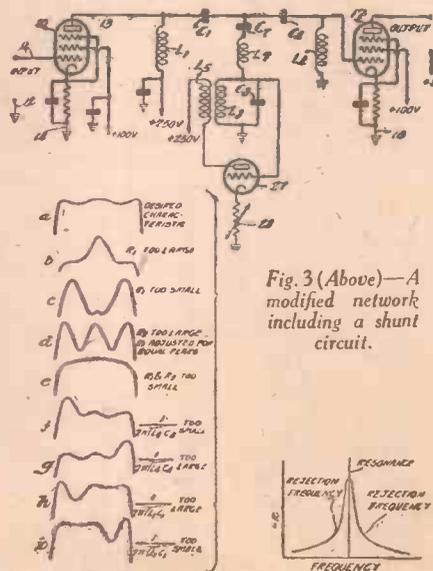
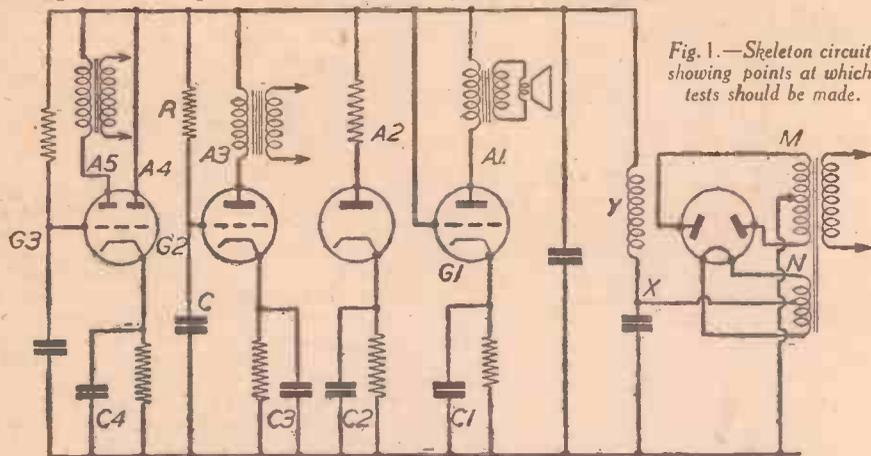

Fig. 5.—A series of curves representing the shapes of band-pass characteristics.
Fig. 1.—Skeleton circuit showing points at which tests should be made.
Broadly considered, the networks of Figs. 1 and 3 include two acceptor circuits,  $C_1L_1$  and  $C_4L_4$ , tuned to the centre of the desired frequency band, and two rejector circuits,  $C_2L_2$  and  $C_3L_3$  (Fig. 1), tuned respectively on the opposite sides of the pass band. As indicated by the curve of Fig. 2, this well-known circuit gives a flat top or three slight peaks with steep sides in the pass band part of the frequency-amplitude characteristic. With high-loss reactors or with a narrow pass band, the shoulders of this characteristic tend to droop. Regeneration of the rejector circuits  $C_2L_2$  and  $C_3L_3$  functions to maintain the desired flat pass band characteristic irrespective of the reactor losses and the pass band width.
The network of Fig. 1 includes an electron discharge amplifier 10 which is provided with input terminals 11-12 and with output terminals 13-14 coupled through reactor-capacitor units  $C_1L_1$  and  $C_4L_4$  to the input terminals 15-16 of an amplifier 17. A resistor  $R_1$  of the order of 100,000 ohms may be connected in shunt to the reactor  $L_1$  for reducing the centre peak of the curve of Fig. 2 to about the same height as the other two peaks, and a resistor  $R_2$ , which may be smaller than the resistor  $R_1$ , may be connected in shunt to the reactor  $L_4$ .
The modified network of Fig. 3 differs from that of Fig. 1 in that the two shunt rejector circuits  $C_2L_2$  and  $C_3L_3$  are replaced by a shunt circuit which includes a capacitor  $C_7$  and a reactor  $L_7$  connected in series with the parallel connected capacitor  $C_8$  and reactor  $L_8$ . In this modification, the parallel resonant circuit is regenerated through means including a single amplifier 27, a cathode lead resistor 28, and the tickler coil  $L_5$  which is inductively coupled to the reactor  $L_8$ .
In lining up a single stage filter such as that of Fig. 1, a signal generator is connected to the grid of the amplifier valve and a valve voltmeter is connected to the output of the filter. The first operation is to line up the rejectors for maximum attenuation at the rejection frequencies. This involves adjusting both tuning and regeneration for maximum attenuation. The two acceptor circuits  $L_1C_1$  and  $L_2C_2$  are then tuned for maximum response in the centre of the pass band. Alignment may be found easier if less than optimum damping is used for this preliminary tuning adjustment. A head and shoulders curve will then be obtained in the pass band. The steps involved in correcting this to the desired shape are indicated in Fig. 5.
Measure the H.T. voltage at the point X (Fig. 1). Low volts will indicate: (1) a faulty rectifier; (2) a faulty mains transformer; or (3) a heavy current drain on the rectifier due to excessive leakage or breakdown of a condenser.